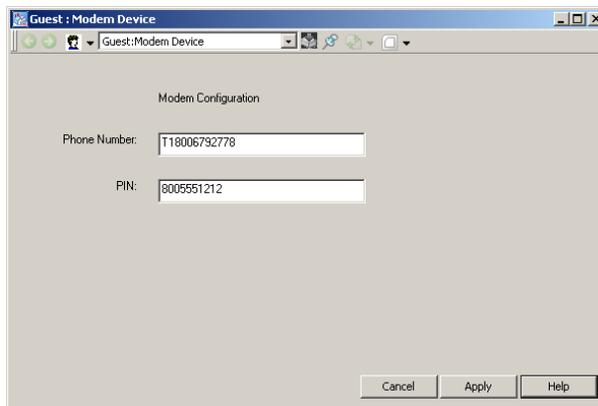

Figure 106. TAP/Modem Device
20. Enter a valid PIN for this user in the PIN: field to produce a view similar to the one shown in Figure 106.